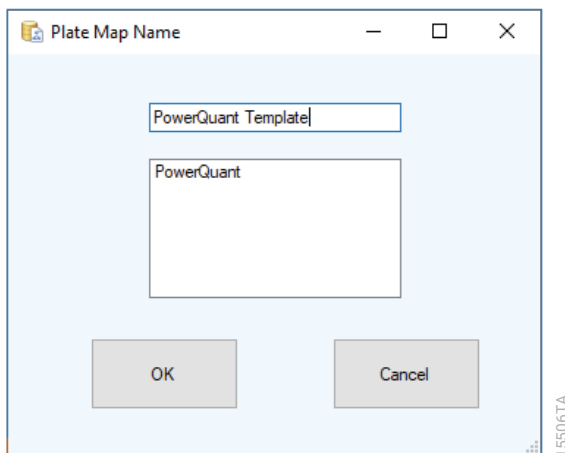

Figure 72. 'Plate Map Name' dialog box with a previously saved plate map.
8. The newly created plate map is now available for selection in the 'Existing Plate Maps' drop-down menu indicating addition to the database (Figure 72).
9. Select the existing template name from the list in the 'Plate Map Name' dialog box (Figure 72).